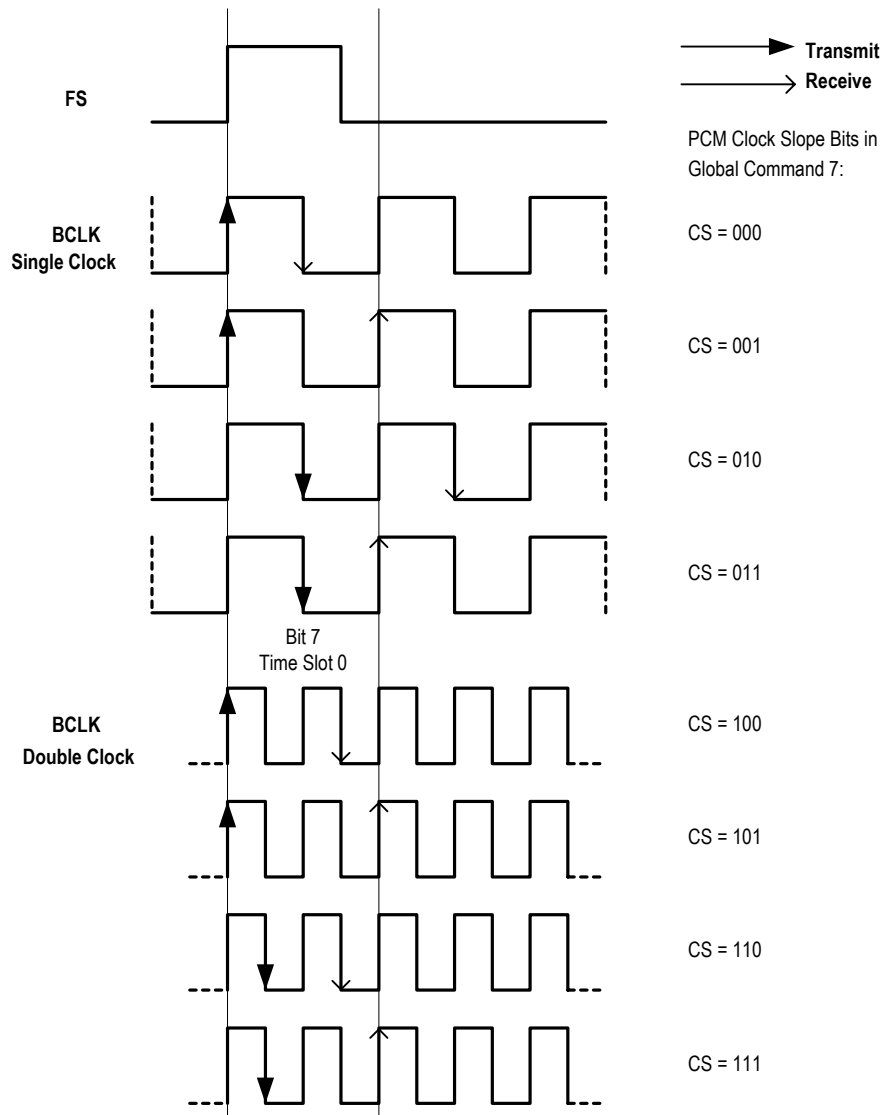

Figure 3 Sampling Edge Select Waveform
In MPI mode, the IDT82V1068 provides two flexible PCM buses for all 8 channels. The digital PCM data can be compressed (A/ $\mu$ -law) or linear format, depending on the DMS bit in Global Command 7. The data rate can be configured as same as the Bit Clock (BCLK) or half of it. The data can be transmitted or received either on the rising edges of BCLK or on falling edges of it. The data transfer time slots can be offset from Frame Synchronization (FS) by 0 BCLK period to 7 BCLK periods. See Figure 3. Global Command 7 makes these selections for all 8 channels.